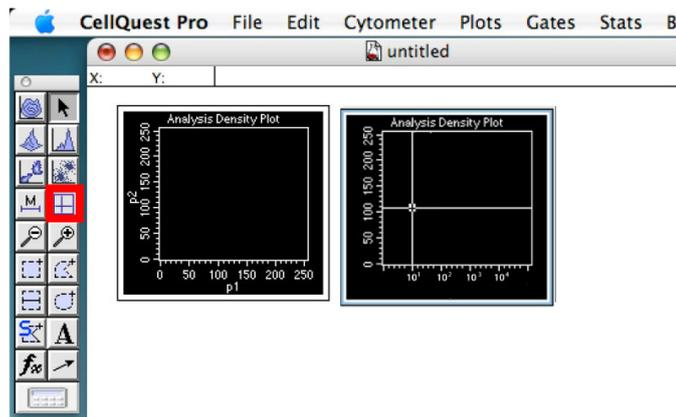

Figure 6. Showing the quadrant. The thresholds of your experiment.
11. Click on the quadrant tool and create quadrants in the daunorubicin graph placing the vertical line around 10 and the horizontal line around the middle of the graph (Figure 6). These will constitute thresholds. You can change these settings according to your sample if required.